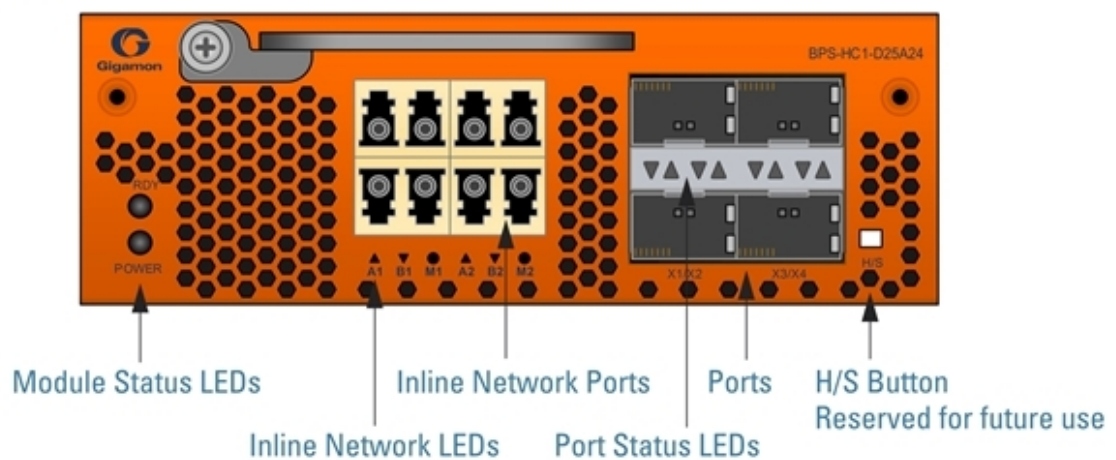

Figure 6 Bypass Combo Module BPS-HC1-D25A24
- Bypass Combo Module with two SX/SR (50/125 μ m multimode) inline network port pairs and four regular SFP+ port cages (BPS-HC1-D25A24) (Figure 6 Bypass Combo Module BPS-HC1-D25A24)